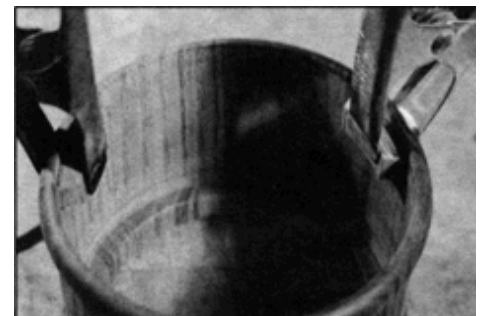

Figure 16
57. Locate parts B off center in order to allow the glass, bezel ring and dial plate to be tilted as they are removed (see **Figure 16**).